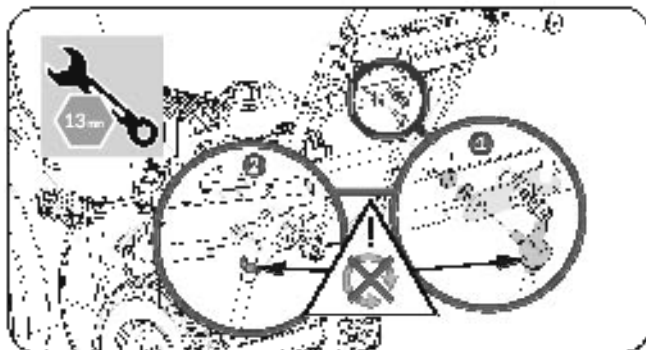

Figure 6b
2. Lift up the shift rod. Insert the trunnion into the shift rod hole on the bottom of the shift lever under the dashboard. Install the washer and M8 nut. Tighten securely. (See **Figure 6b #1**)
The speed adjusting lock nut at the upper end of the shift rod was adjusted before leaving the factory. Do NOT loosen the lock nut. Doing so may cause the machine speeds to become dis-ordered, including Fwd and Rev. (See **Figure 6b #2**)